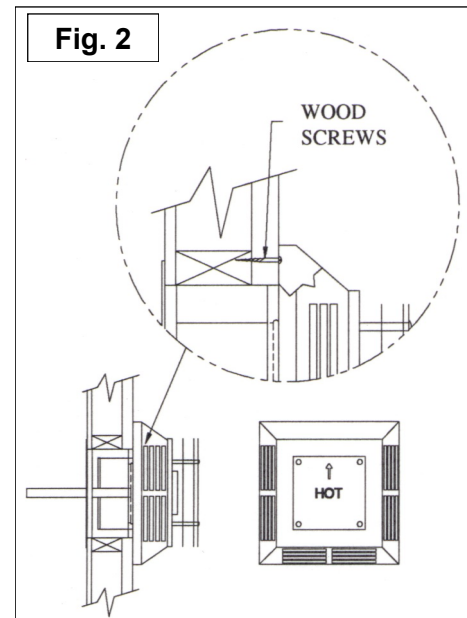

Fig. 2
NOTE: Twist-lock procedure: Four indentations, located on the female ends of the pipes and fittings, are designed to slide straight onto the male ends of adjacent pipes and fittings by orientating the four pipe indentations so they match and slide in to the four entry slots on the male ends (Fig. 2). Push the pipe sections completely together, then twist-lock one section clockwise approximately one quarter turn, until the two sections are fully locked. The female locking lugs will not be visible from the outside, on the pipe or fittings. They may be located by examining the inside of the female ends. Horizontal vent runs **MUST** be supported every three feet (76 mm). Wall straps are available for this purpose.
8. Slide the appliance and vent assembly towards the wall, carefully inserting the vent pipe into the vent cap assembly. It is important that the vent pipe extend into the vent cap sufficient distance so as to result in a minimum pipe overlap of 1 $\frac{1}{4}$ " (31 mm). Secure the connection between the vent pipe and the vent cap by attaching the two sheet metal strips extending from the vent cap assembly into the outer all of the vent pipe. Use the two sheet metal screws provided to connect the strips to the pipe section. Bend any remaining portion of the sheet metal strip back towards the vent cap, so it will be concealed by the Wall Thimble Cover. (Fig. 2)